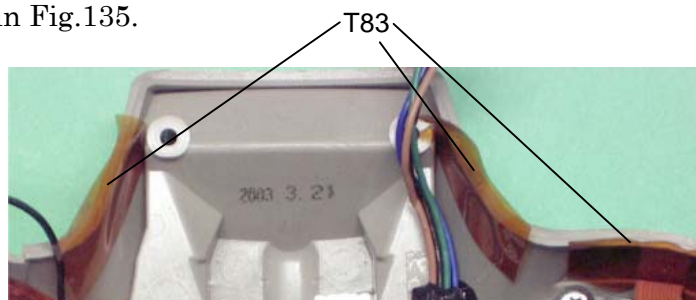

Fig.135
- 5) Stick on T83 (10x20) as shown in Fig.135.